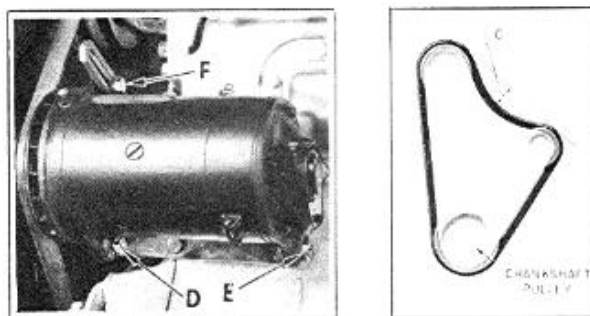

FIGURE 21
1. Loosen the two generator bolt nuts (D) and (E) and adjusting arm bolt (F), Figure 21.
2. Swing the generator away from the engine until the slack in the fan belt is such that the section between the water pump pulley and the generator pulley can be pushed down 3/4" below a straight edge laid across the pulleys as shown at (C), Figure 21.
3. Tighten generator attaching bolt nuts (D) and (E) after making the adjustment.